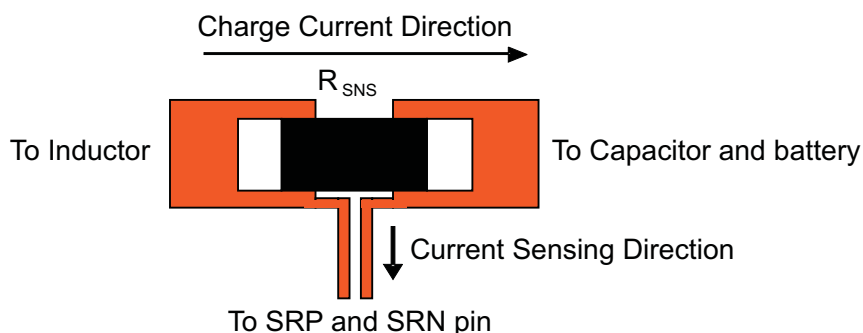

Figure 26. Sensing Resistor PCB Layout
4. Place the charging current-sensing resistor right next to the inductor output. Route the sense leads connected across the sensing resistor back to the IC in same layer, close to each other (minimize loop area) and do not route the sense leads through a high-current path (see Figure 26 for Kelvin connection for best current accuracy). Place the decoupling capacitor on these traces next to the IC.